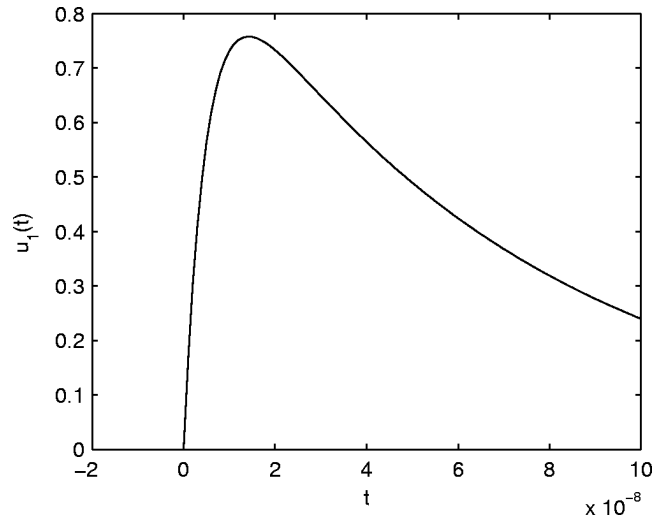

Figure 12-6: Double exponential impulse (second type)
5. Double exponential impulse (second type)      **DBLEXP / DBLEXP** (see figure 12-6)